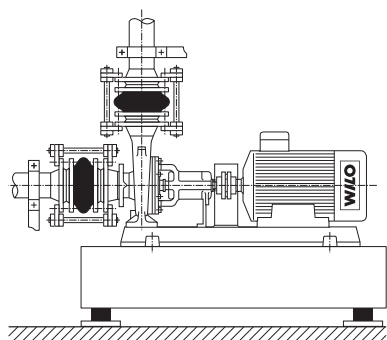

Fig. 10: Connecting the pump stress-free
- The pipes must not transfer any forces to the pump. They are to be braced directly in front of the pump and connected without tension (see Fig. 10).
- The expansion of the pipes in the event of a temperature rise is to be compensated by suitable means (see Fig. 10). Air enclosures in the pipes must be avoided by means of a corresponding installation.